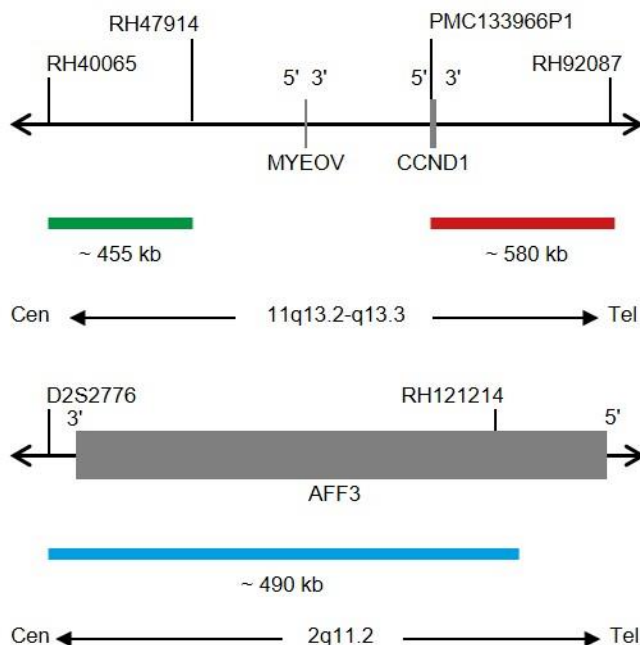

Fig. 1: Top: SPEC CCND1 Probe map; Bottom: SPEC 2q11 Probe map (not to scale)
- ZyGreen (excitation 503 nm/emission 528 nm) labeled polynucleotides (~10 ng/μl), which target sequences mapping in 11q13.2-q13.3* (chr11:68,249,010-68,705,283) proximal to CCND1 breakpoint region (see Fig. 1).
- ZyRed (excitation at 580 nm/emission 599 nm) labeled polynucleotides (~4.5 ng/μl), which target sequences mapping in 11q13.3* (chr11:69,453,301-70,031,240) distal to the CCND1 breakpoint region (see Fig. 1).
- ZyBlue (excitation at 418 nm/emission 467 nm) labeled polynucleotides (~37 ng/μl), which target sequences mapping in 2q11.2* (chr2:100,132,806-100,621,725) (see Fig. 1).